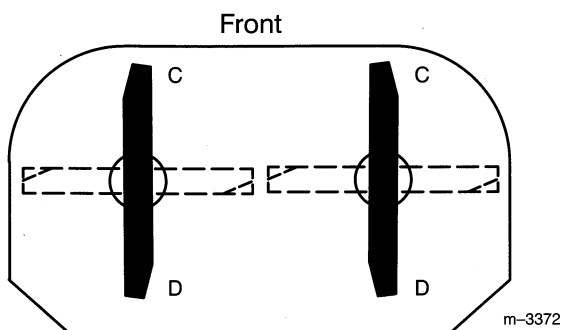
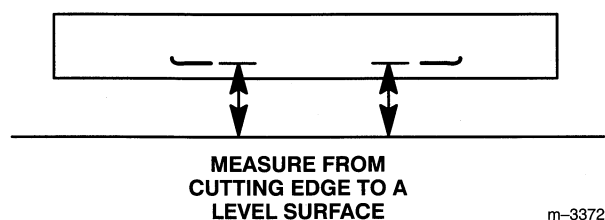

Figure 27
Figure 28
2. Position the blades front-to-rear (Fig. 27). Measure at "C" and "D" locations (Fig. 27) from a level surface to the cutting edge of the blades (Fig. 28).